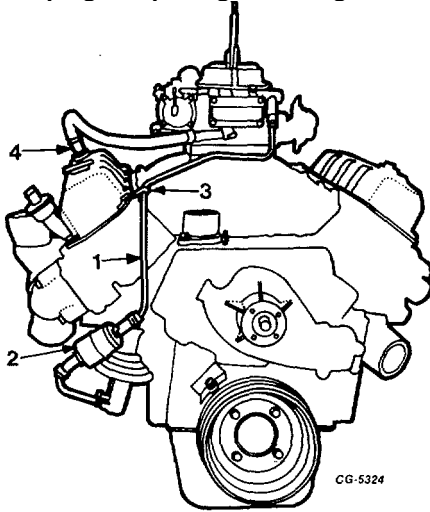

Fig. 31 Fuel Line Removal
30. Remove fuel line with bracket, reinforcement washer and fuel filter, Figure 31. Remove PCV valve and hose.